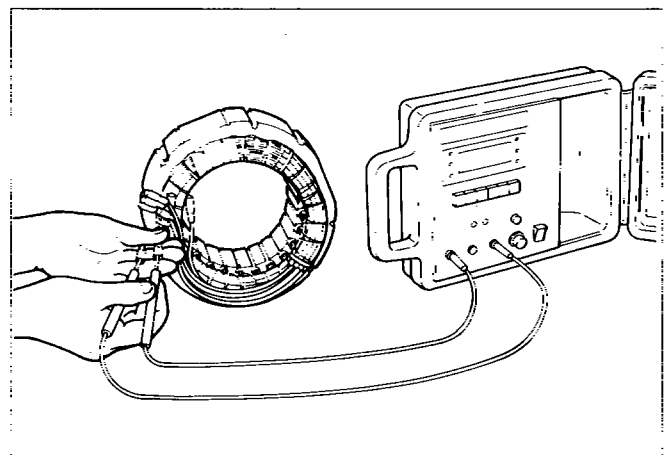

Fig. 11-2
2) Measure the resistance between terminals on stator leads. (See Fig. 11-2)